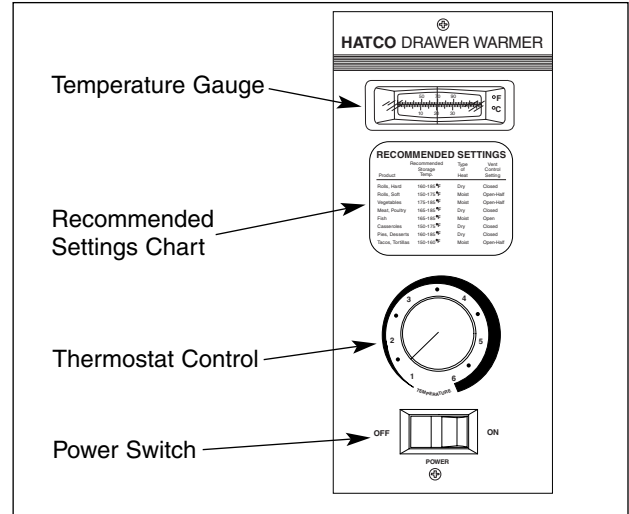

Figure 8. Operating Controls
2. Turn the Power Switch to the ON position. See Figure 8.